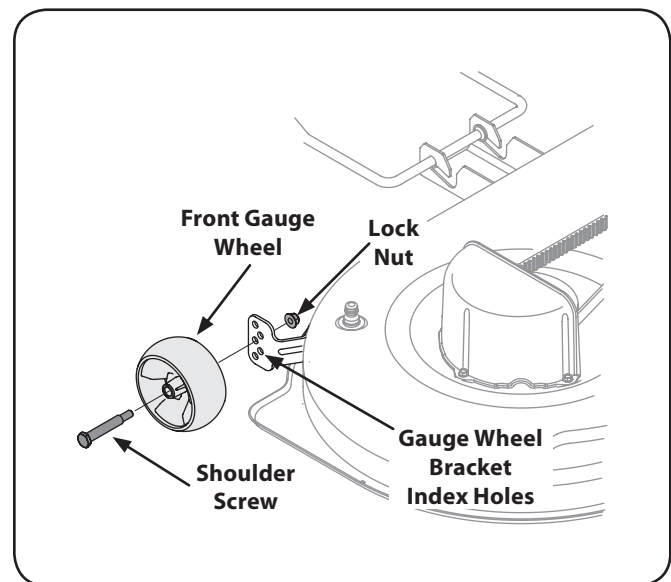

Figure 6-7
3. Remove the hex flange lock nut and shoulder bolt securing one of the front ball wheels to the front index bracket. Reposition the ball wheel to align with the one of five index holes that places the wheel $\frac{1}{4}$ " to $\frac{1}{2}$ " above the ground. Secure the ball wheel to the index bracket with the shoulder bolt and flange lock nut. Note the index hole used and secure the other ball wheel in the same position. See Fig. 6-7.